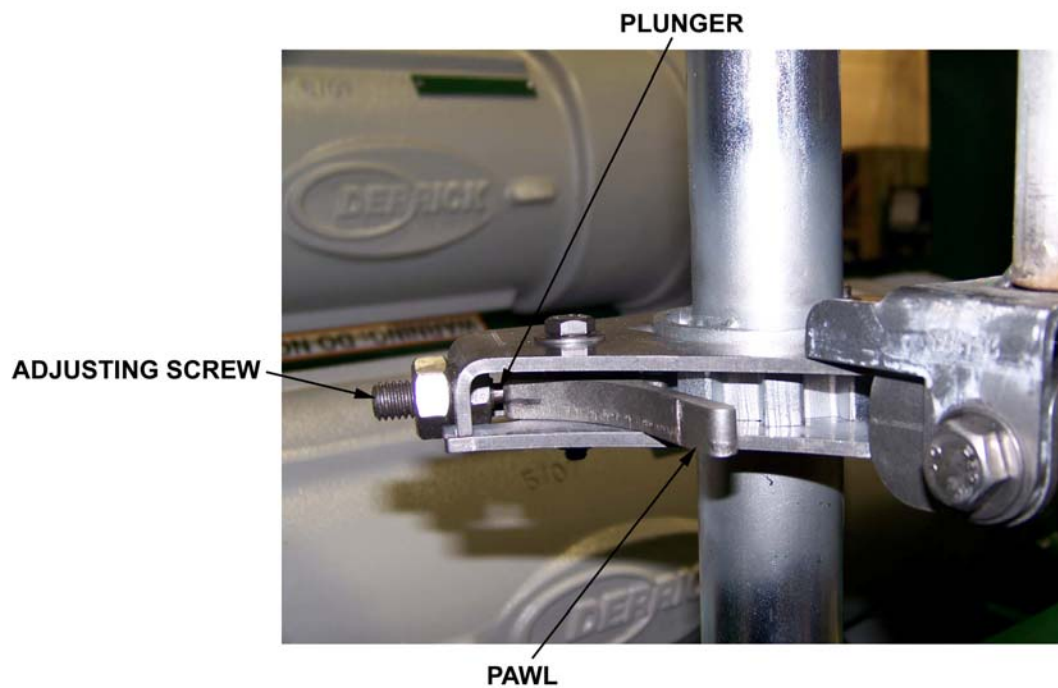

Figure 5-3 Spring-Loaded Plunger Adjustment
1. Turn adjusting screw (Figure 5-3) clockwise to increase spring tension on plunger.